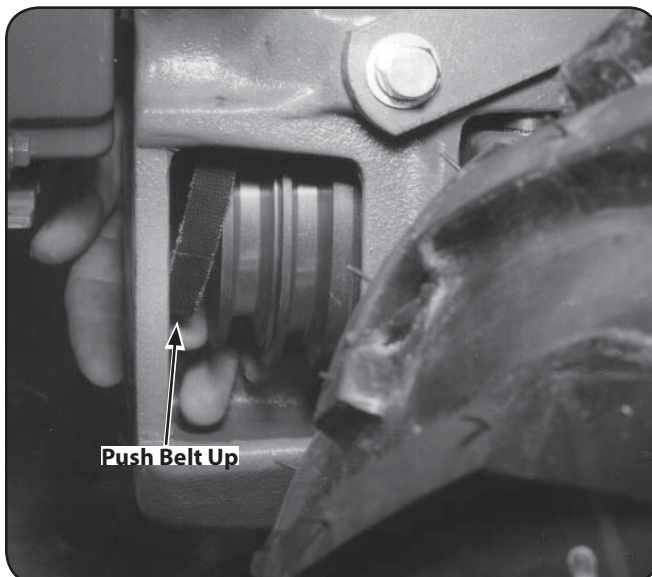

Figure 7-2
4. Push the belt upward to create slack in the belt. See Fig. 7-2.
9. Push the belt forward then down until it is looped over the lower pulley. See Fig. 7-2. Do not yet seat it in either of the lower pulley's grooves.